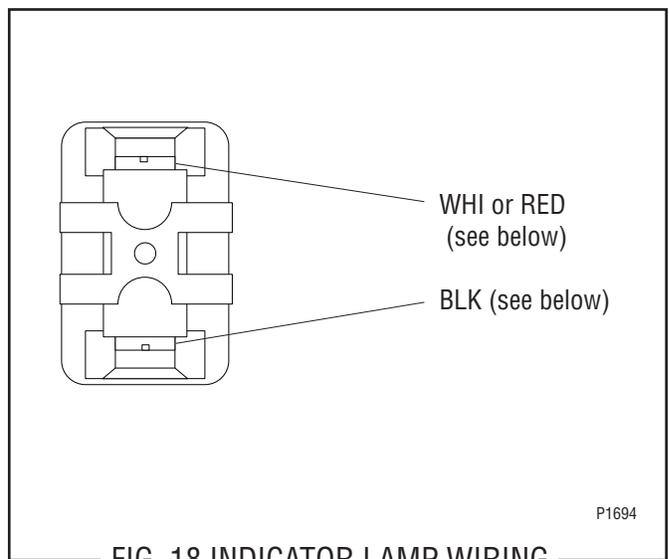

FIG. 18 INDICATOR LAMP WIRING
3. Refer to FIG. 18 when reconnecting the wires.